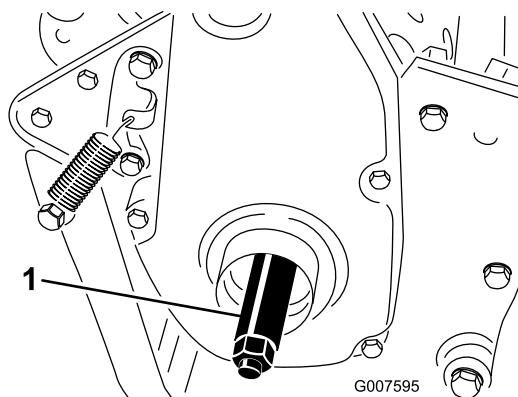

Figure 8
3. Thread the right wheel shaft into the drive pulley on the right side of the machine (Figure 8).